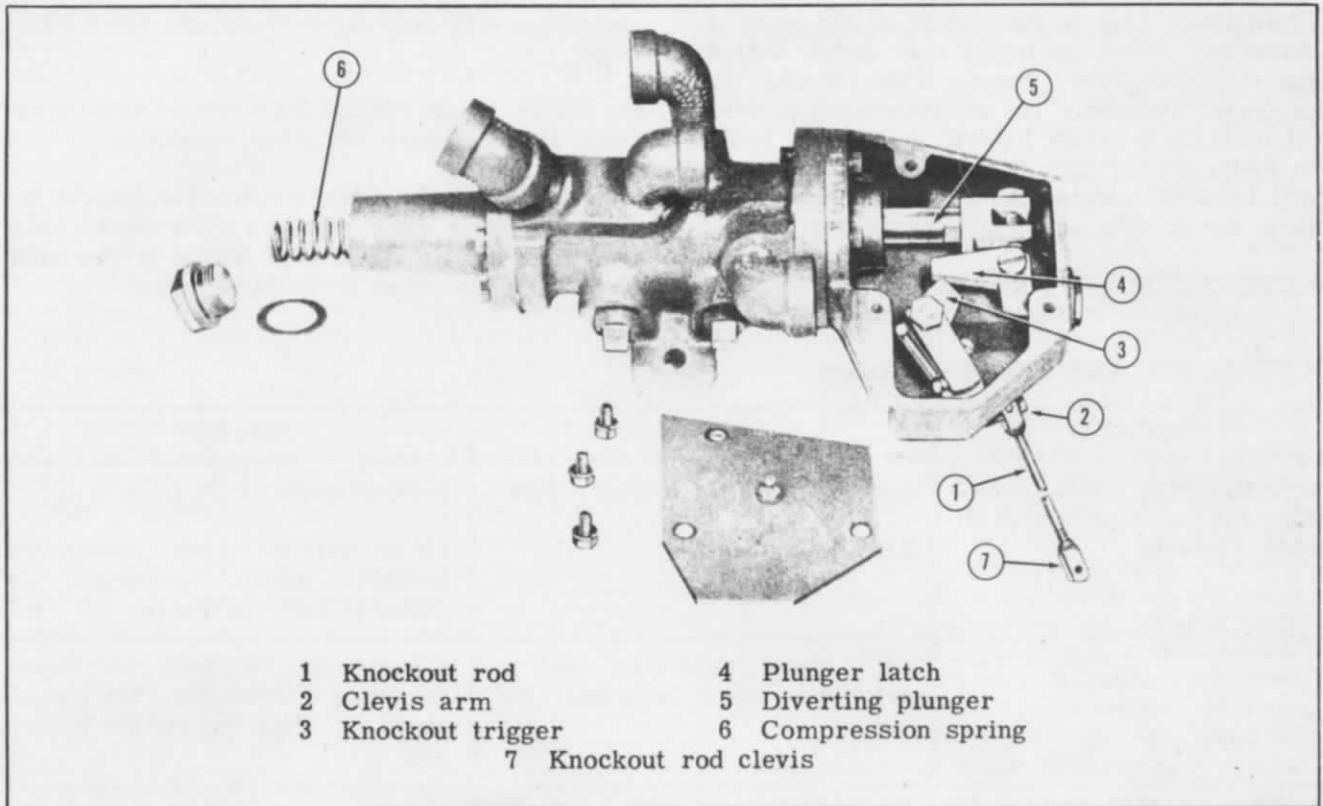

Figure S4 - COMPACTOR Valve Adjustments
Raising Body, except that oil flows through COMPACTOR valve to COMPACTOR cylinder instead of to body operating cylinder. The COMPACTOR cylinder piston travels until the COMPACTOR is completely folded; then the piston bottoms in the cylinder and the resulting pressure causes the main operating valve plunger 'K', figure 13, to travel outward and move main plunger 'P' to neutral position as explained in paragraph 3a. At the same time, the outward movement of plunger 'K' causes the quadrant (4), figure S8, to turn on pivot pin (3). This movement produces a pushing action on rod (1), figure S4, which is attached to lever (2) on COMPACTOR valve. This movement causes the tip of the trigger (3) to snap behind end of latch (4) which is holding the plunger (5) in inward position against pressure of spring (6). At the moment this takes place, the center plunger in the main operating valve has been moved to neutral position by plunger 'K', figure 13. With the main valve in neutral position, there is no more pressure on plunger 'K', therefore it is returned to inward position by spring 'M'. At the same time, rod (1), figure S4, pulls on lever (2) and trigger (3) releases latch (4) so that spring (6) will push plunger (5) outward. Controls are then in proper position for operation of bucket or body.
b. COMPACTOR Valve: As explained under COMPACTOR Return Stroke, paragraph 5, the COMPACTOR valve plunger is released from COMPACTOR operating position, to position for operating bucket, by operation of main valve mechanism. Adjustment of the COMPACTOR valve release mechanism is provided for by clevis on threaded end of rod (1), figure S4. If release action fails, it is probable that trigger (3) does not move far enough to grip latch (4). This can be remedied by removing clevis pin and turning clevis (7) two turns off rod to lengthen rod. If release action operates correctly, but plunger will not move outward, spring (6) is broken or too weak. To inspect spring, rear cover of valve must be removed. Failure of release may also be caused by springs on trigger and latch not operating properly.